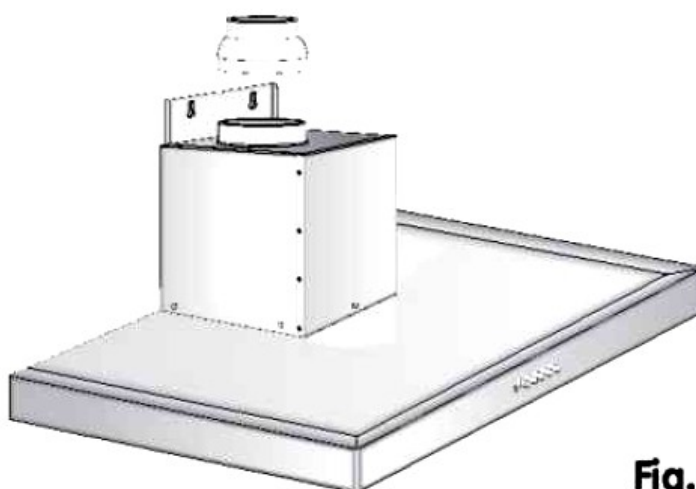

Fig. 4
- To wash the stainless steel panel, unscrew the screws and use a non-aggressive detergent (Fig 4)
- Mount the 120/150 reduction fitting whenever the air discharge tube is ϕ 125 (Fig 4)